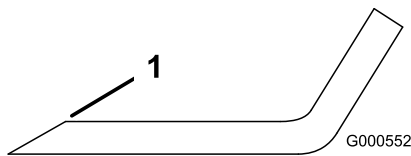

Figure 58
- Use a file to sharpen the cutting edge at both ends of the blade (Figure 58).
Note: If the blade is not balanced, file some metal off the end of the sail area only (Figure 58).